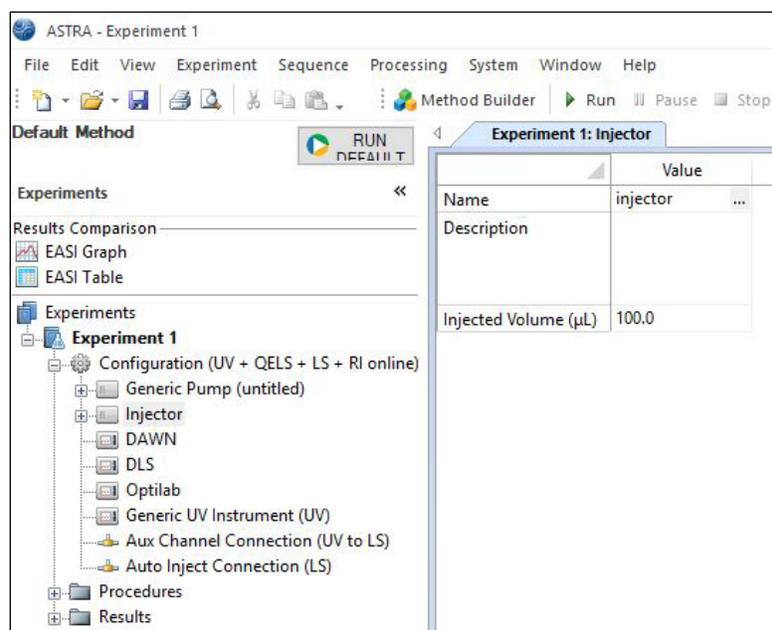

Figure 11. A screenshot of the ASTRA software with the **Configuration** node expanded and **Injector** selected.
1. Expand the experiment **Configuration** and double-click on **Injector** to define the **Injected Volume** ( $\mu\text{L}$ ) (see Figure 11):